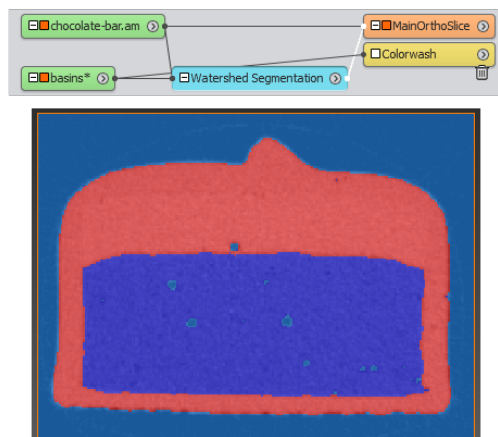

Figure 6.79: The *Watershed Segmentation* wizard completed.
- Simply press *Apply* to trigger computation (see Figure 6.79).